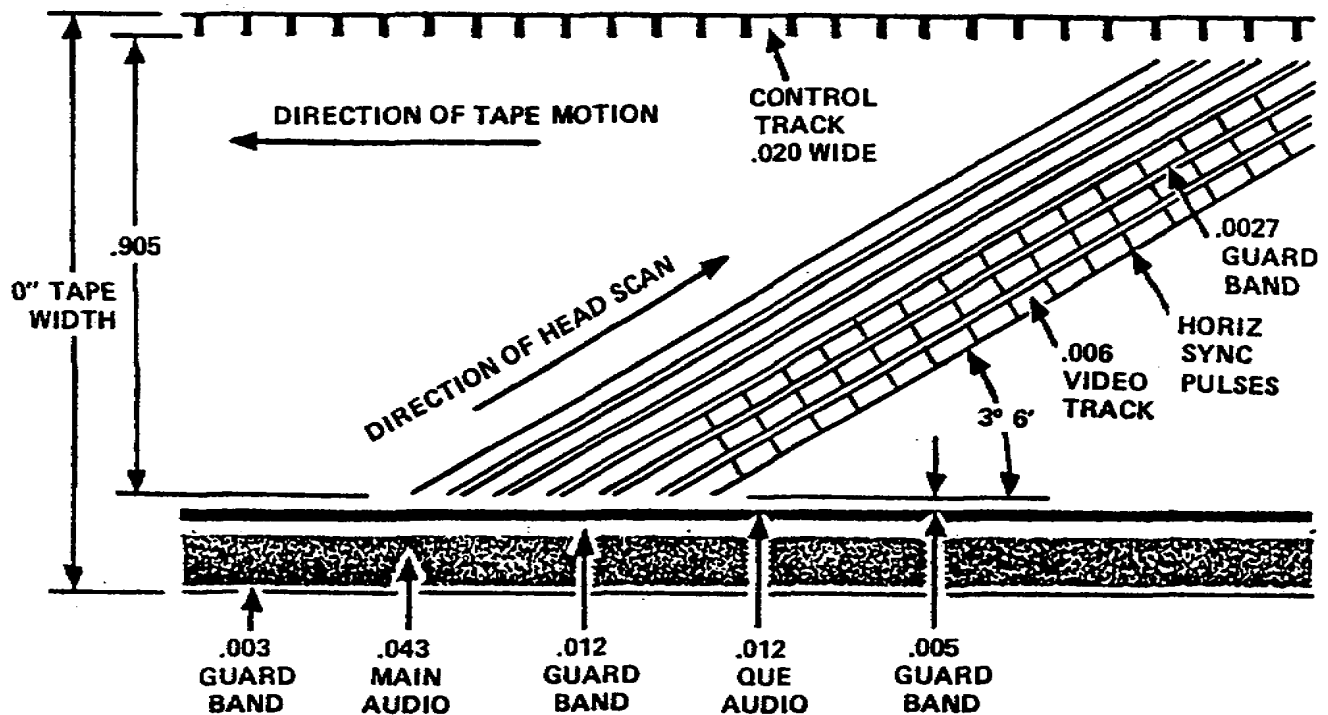

Figure 1-6. One-inch helical scan video tape showing all dimensions and relative positions on the tape
c. All of the audio tracks (narrative, recording, control track signal pulses and cueing) are recorded longitudinally on the tape as illustrated (fig 1-6).